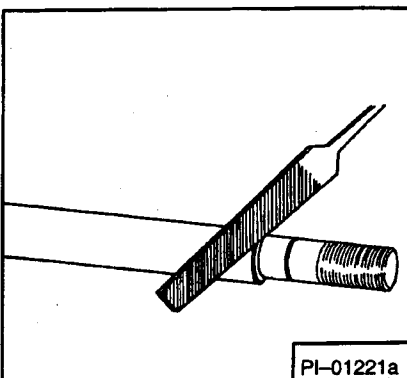

Fig. 4-45 Filing Bevel On Shaft
1. File and grind a bevel on shoulder at piston end of cylinder shaft (Fig. 4-45).